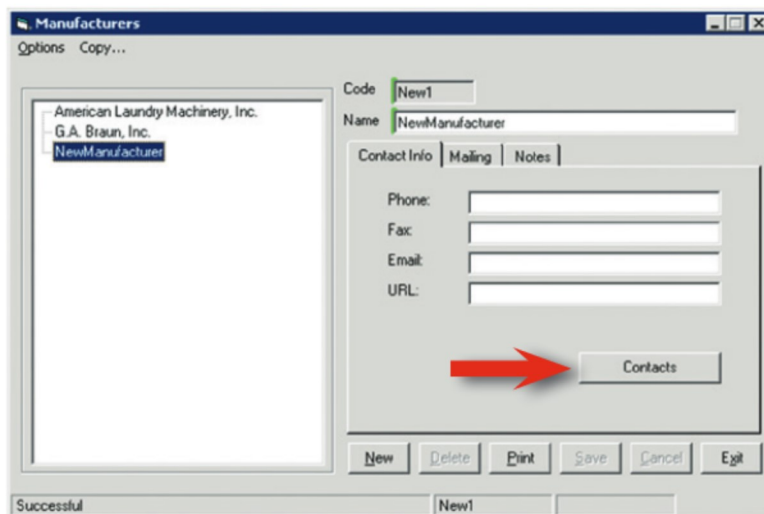

Figure 6. Manufactures dialog.
2. Select a manufacturer in the *Manufacturers* dialog (see Figure 6).